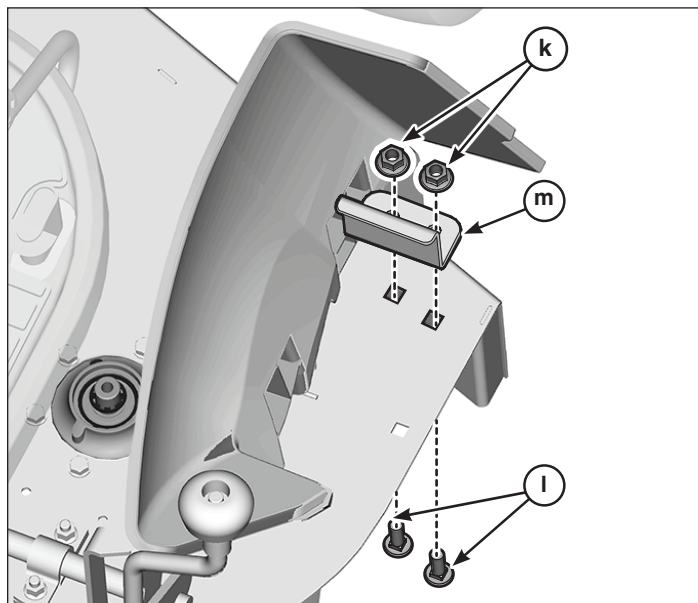
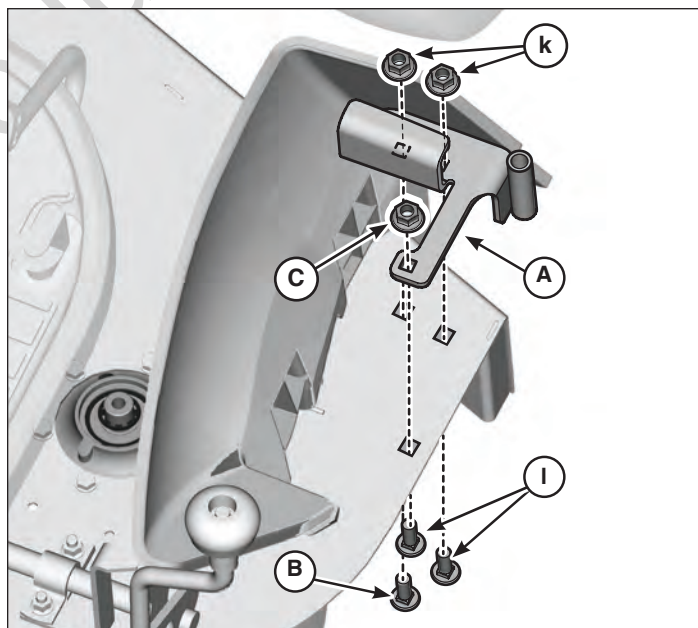

Figure 6
Figure 7
- Remove and retain nuts (k, Figure 6), bolts (l) remove deflector bracket (m).
- Install pivot assembly (A, Figure 7). Secure with existing hardware (k/l) removed in Figure 6 and new hardware (B/C).